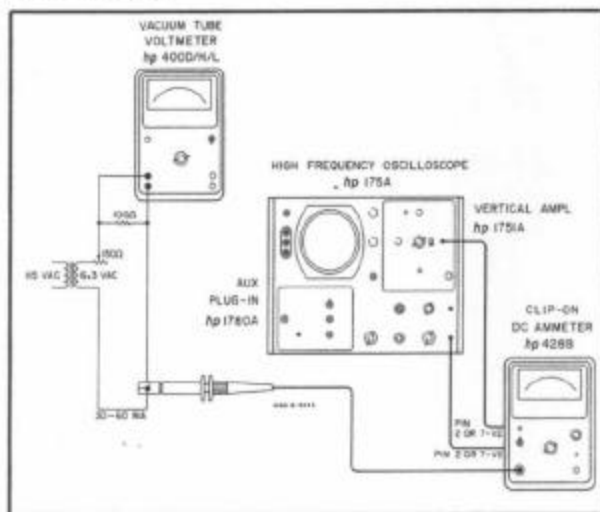

Figure 5-5. Detector Phase Adjustment Setup
a. With Q1 still grounded connect the vertical input of an oscilloscope to pin 7 of V2 and the horizontal input to pin 7 of V5. Clip Model 428B probe around wire carrying 5 ma ac (0.5 volt ac across 100 ohms monitored by an external meter, see figure 5-5).
Connect an ac voltmeter, such as the Φ Model 400D/H/L to pin 2 or 7 of V2. Set 400D/H/L to 1 volt range. Clip 428B probe around wire carrying 35ma rms ac monitored by an external meter as appears in the ac generator portion of figure 5-5. Adjust 150 ohm potentiometer for 3.5 vac across the 100-ohm resistor. Set 428B RANGE switch to 100 MA. Keep this setup for the next three steps.
Clip a 390 ohm resistor across the "FEEDBACK DISCONNECT" terminals. Connect the horizontal input of an oscilloscope, such as Φ Model 140A/175A, to pin 2 or 7 of V5. Connect vertical input to pin 2 or 7 of V2. Leave 428B probe around wire carrying 35ma ac (3.5 volt ac) across 100-ohm monitored by an external meter (see figure 5-5). Turn 428B to 100 ma range. Turn slug L7 so pattern on oscilloscope looks like a "bow tie" with its knot symmetrical (see figure 5-6A or B). Note that in addition to the top and bottom intersections being in a vertical line, the center section must be free of traces. It is possible to get the top and bottom intersections in a vertical line with traces in the center section, but this is not a correct adjustment. Lock L7. Figure 5-6C illustrates an incorrect adjustment with the top intersection, not over the bottom intersection. Remove 390-ohm resistor.